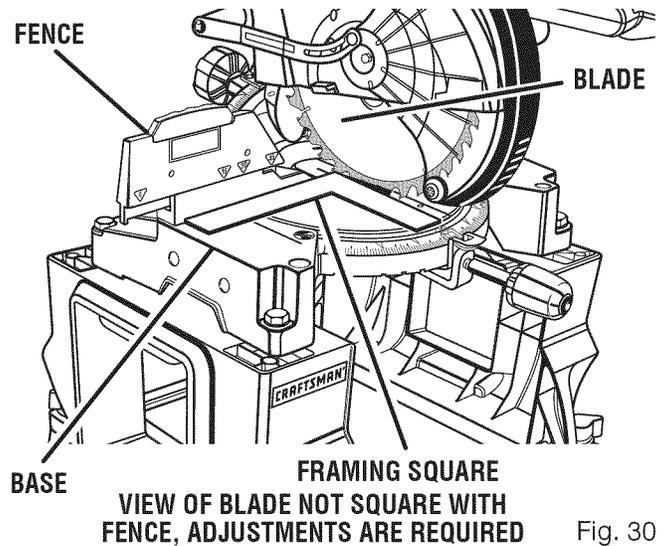

Fig. 30
- If the front or back edge of the blade angles away from the square as shown in figures 30 and 31, adjustments are needed.